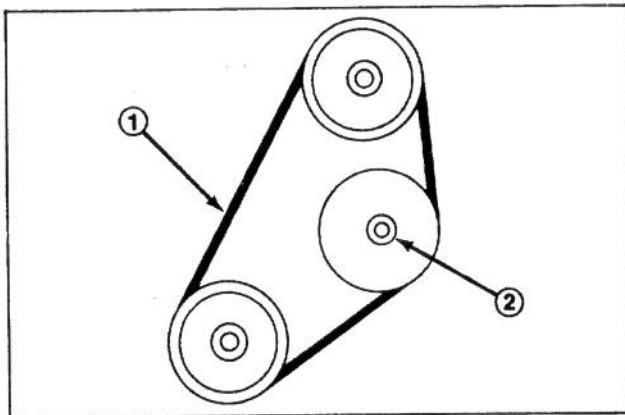

Figure 52
3. Belt should deflect 1/4 in. (6 mm) midway between the pulleys with 5 lb force (22 n) (Fig. 52). If deflection is incorrect, proceed to step 4. If correct, proceed to step 5.
4. Loosen locknut securing idler pulley (Fig. 52). Push idler pulley against belt until proper deflection is achieved and tighten idler pulley locknut (Fig. 52).
2. Loosen locknut securing idler pulley, slide pulley away from belt, and remove belt from top and bottom pulleys (Fig. 52).
3. Install new belt and adjust for proper tension. Push idler pulley against belt until belt deflects 1/4 inch (6 mm) with 5 lb force (22 N) midway between top and bottom pulley locknut to secure adjustments (Fig. 52).